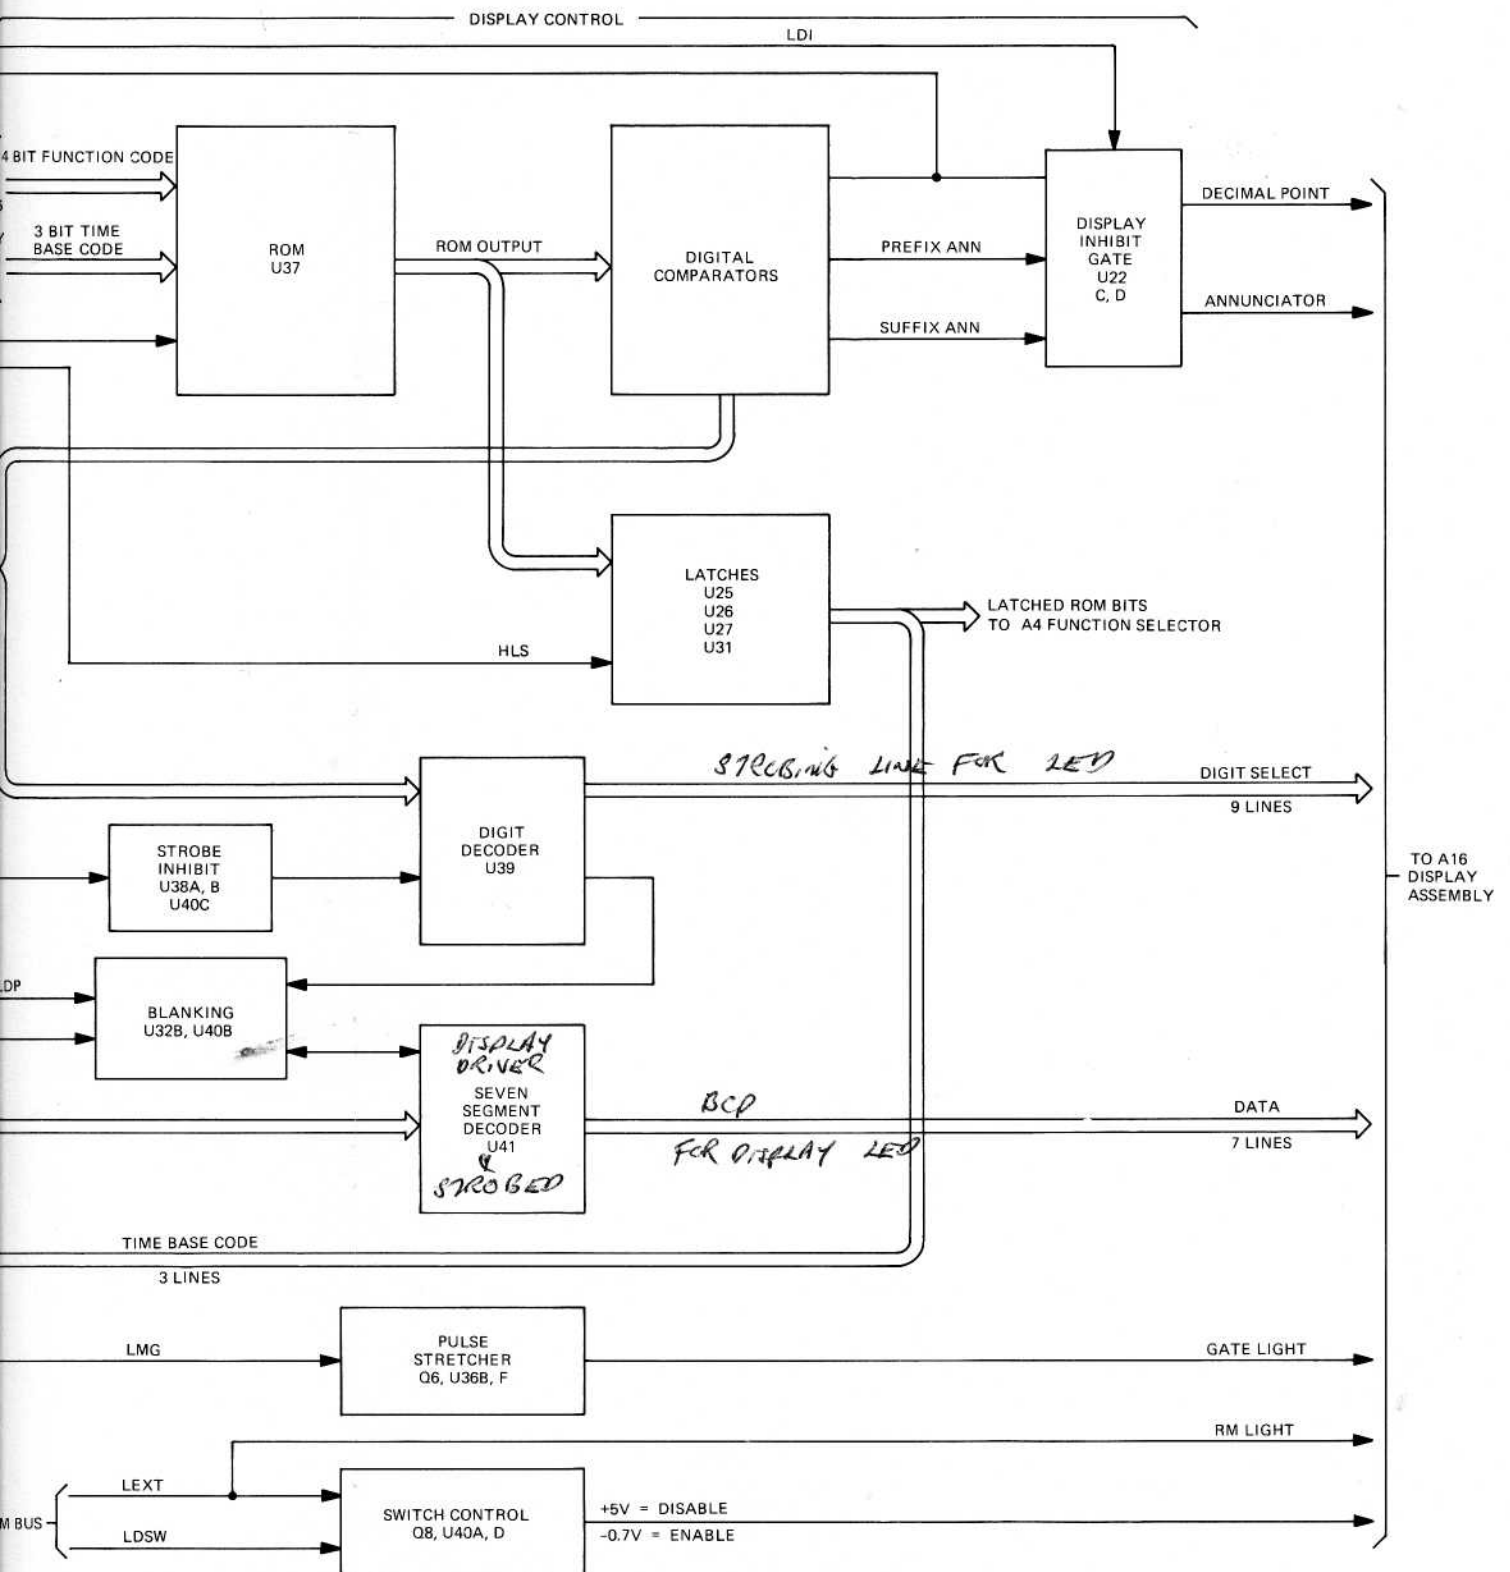

Figure 6-5. A1 Motherboard Block Diagram
- Figure 6-5. A1 Motherboard Block Diagram